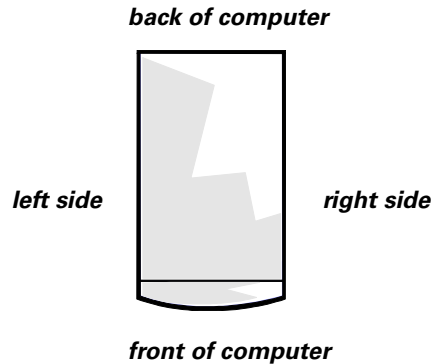

Figure 7. Computer Orientation
- a. Lay the computer on its left side (see Figure 7) on a piece of foam or cardboard (to prevent damage to the computer) while you remove the feet.